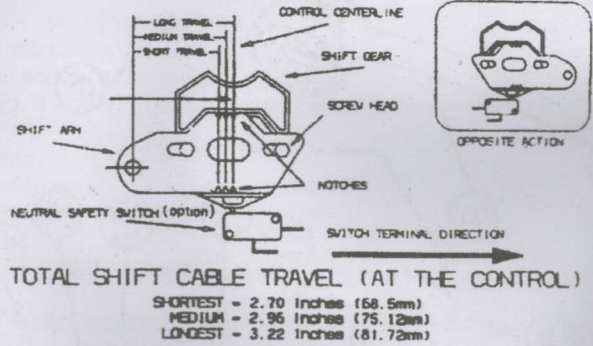

Fig. 2 - Shift Cable Travel Setting
2.3) SELECTING SHIFT CABLE TRAVEL LENGTH (Ref. Fig. 2)